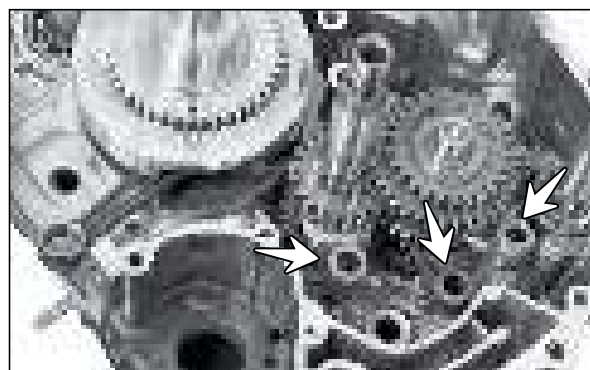

Fig. 3.198
- Assemble the fork gear shift no.1, fork gear shift no. 2 and fork gear shift high speed on their respective position. (Fig. 3.198)